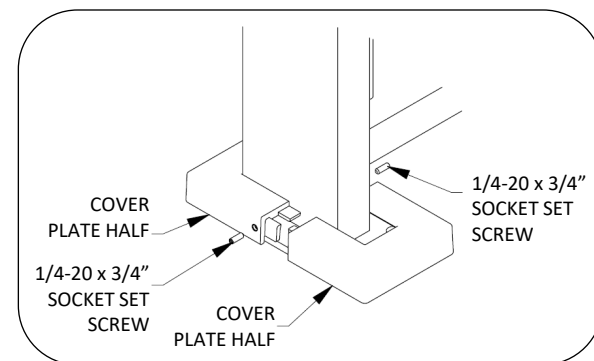

Fig. 12 – INSTALL COVER PLATE
12. Attach cover plates, see Fig. 12.